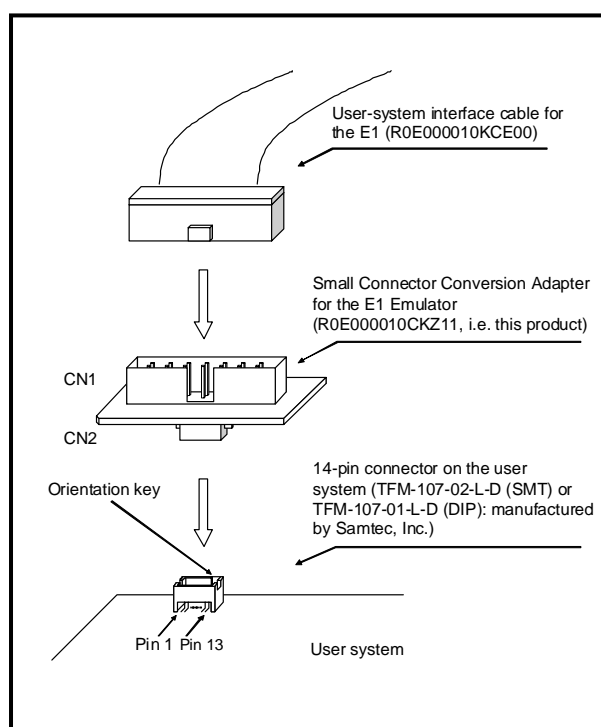

Figure 2 Usage of the R0E000010CKZ11
4. Usage (See Figure 2)
The R0E000010CKZ11 is connected between the 14-pin connector (2.54-mm pitch) on the head of the user-system interface cable (for the E1) and a 14-pin connector (1.27-mm pitch) on the user system as shown in Figure 2.